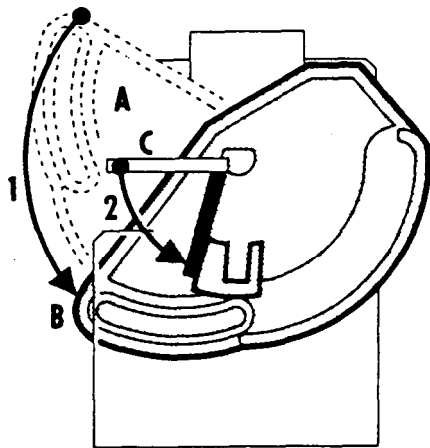

Fig. 13
1. Turn downwards the driving plastic disc "A" to stop "B" (see fig. 13).
2. Turn downwards the lever "C" of the gas cock as far as possible (fig. 13).